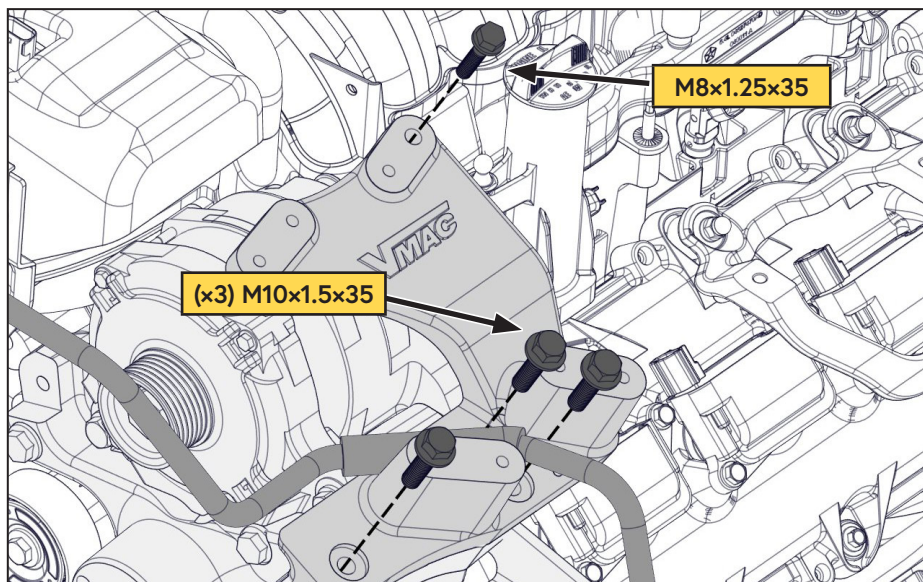

Figure 21 — Install compressor bracket
- ☐ Gently deflect the AC (and vacuum pump lines up), and install the compressor bracket onto the VMAC main bracket. Use care when deflecting the AC and vacuum pump lines to prevent them from bending or kinking (Figure 21).